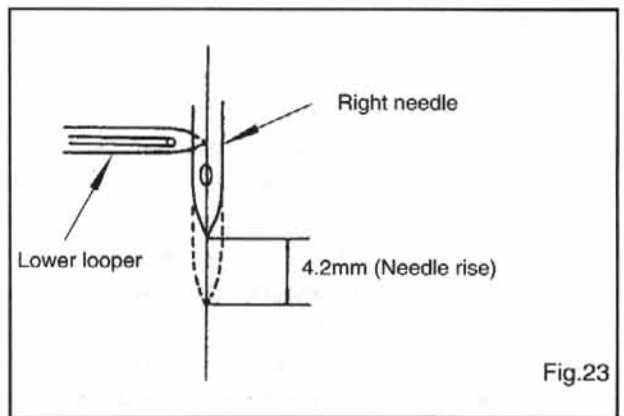

Fig.23
- b) Adjust lower looper cam so that the point of lower looper is at center of right needle when needle rises 4.2mm from its lowest position. (Fig.23)